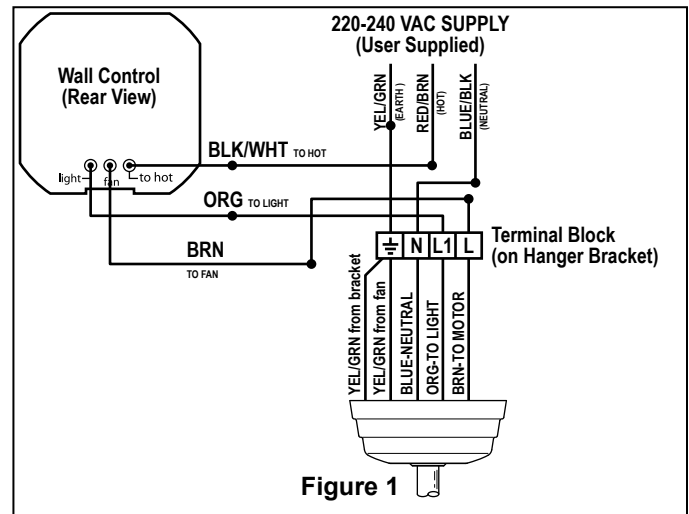

Figure 1
1. Installing Wall Control (Figures 1 & 2):
- Make wiring connections to terminal block as shown in Figure 1.